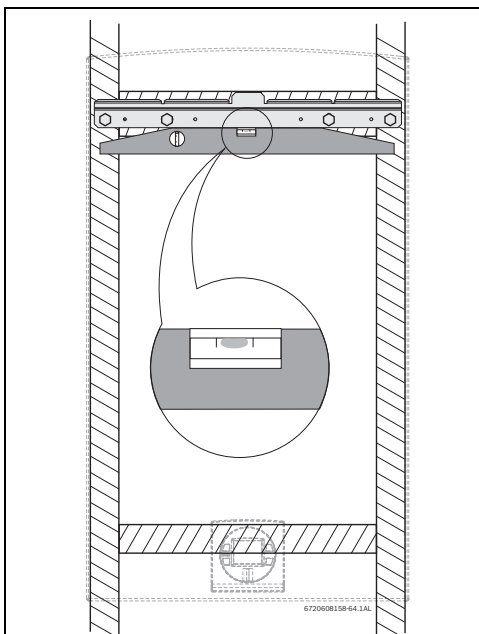

Fig. 28 Leveling wall mounting bracket
- Secure the wall mounting bracket provided with the heater to a wall surface. The heater must be kept level on the wall surface, see fig. 28, page 36.